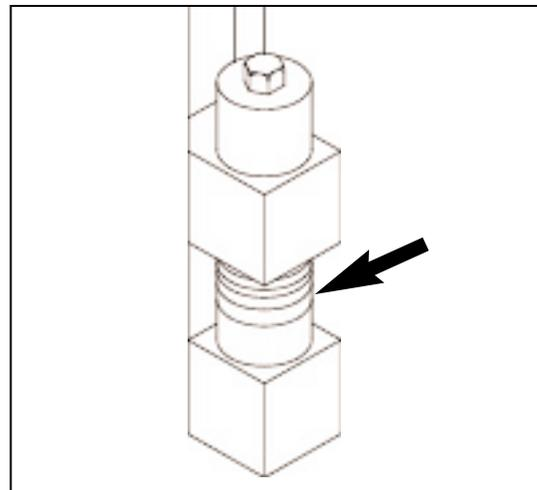

Figure 4.37 83mm [3 1/4"] OF SPACERS
- e. Store spacers on bottom side of bolt for front bolts and left hand rear bolt. For right hand rear bolt, store spacers on top. Tighten bolts at all 4 corners that secure mold throat plate spacers. (See figure 4.37).